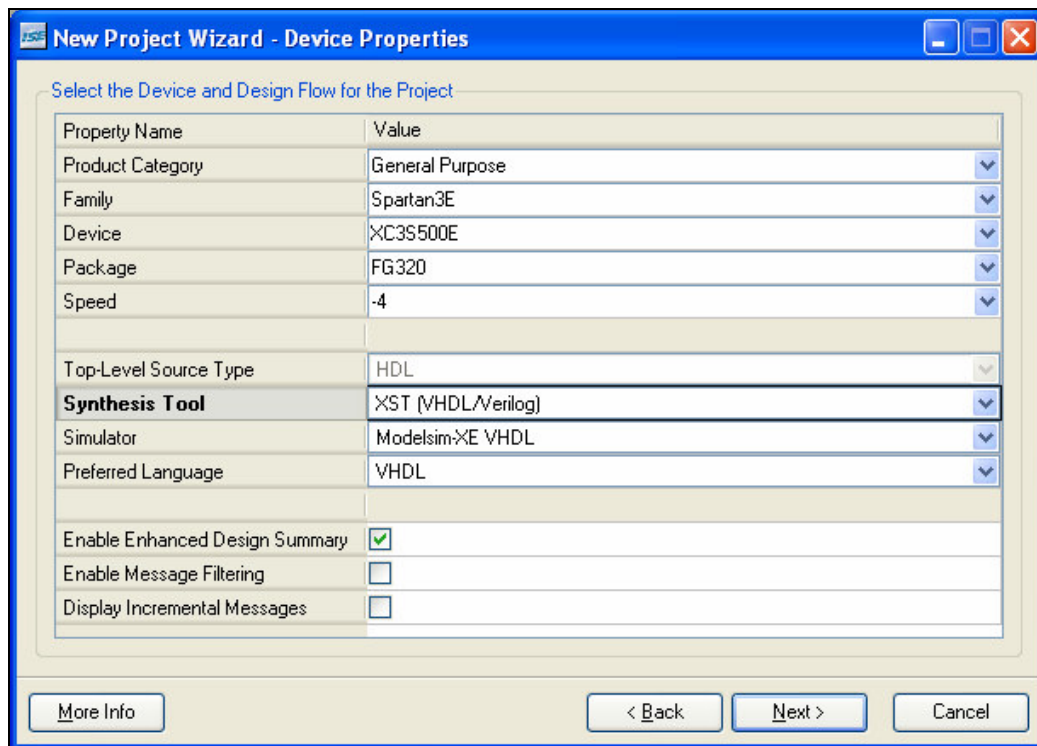

Figure 1 New Project Wizard - Device Properties settings.
1. Start Xilinx ISE 9.2 and create a new project called “tutorial_5.” Choose a project location (folder on the C drive) that will be easy to find. On the **Device Properties** window choose the settings shown in figure 1.